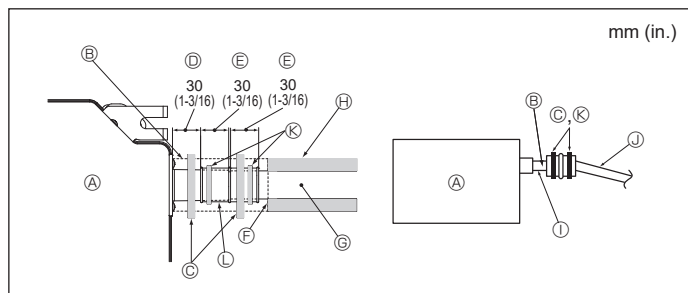

Fig. 3-5
- ① Up to 850 mm (33 in.)
1. Connect the drain socket (supplied with the unit) to the drain port. (Fig. 3-5) (Affix the tube using PVC adhesive then secure it with a band.)